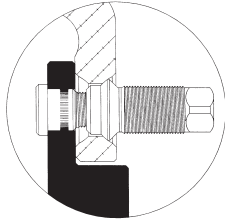

Figure 17
- Special inner cap nuts with a collar must be used with aluminum wheels. (See Figure 17 on page 47.)